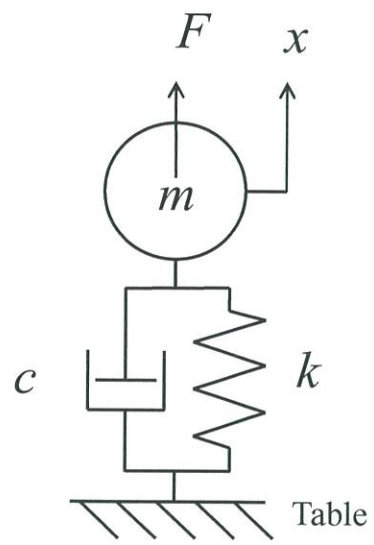

Figure 2-1
I. Consider the single degree-of-freedom system consisting of the mass  $m$ , the spring having a spring constant  $k$ , the viscous damper having the damping coefficient  $c$ , and the immobile table, as shown in Figure 2-1. The mass  $m$  is connected to the immobile table via the spring and the viscous damper. Consider the steady state response of the system when the sinusoidal external force  $F$ , whose amplitude is  $A$  and angular frequency is  $\omega$ , is applied on the mass  $m$  in the vertical direction (the direction of the  $x$ -axis). The displacement of the mass along the  $x$ -axis is represented by  $x$ . The effect of gravity is not considered.
- (1) When the undamped natural angular frequency is  $p$  and the damping ratio is  $\zeta$ , show that the equation of motion of the single degree-of-freedom system can be written as Equation (2-1).